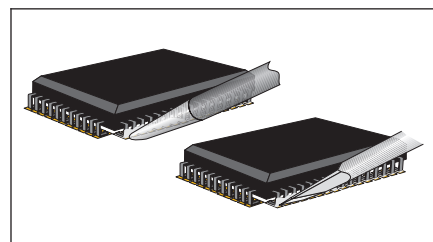

Figure 2 Tip Should Be Flat
5. Bring the tip in with the bottom as flat as space will permit, with the toe towards the component and between the bridged leads. When using the scalpel tip, the flat bottom instead of the toe is towards the component. (See Figure 2.)